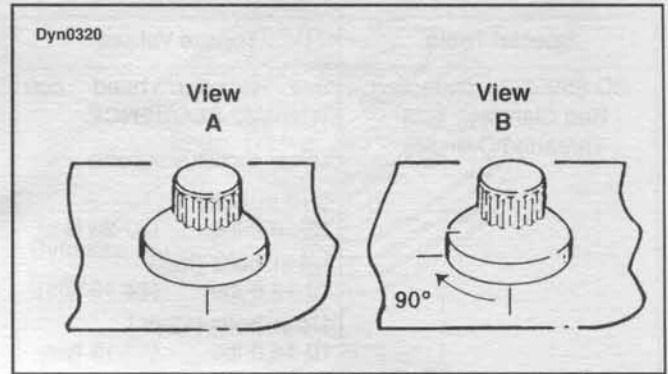

Figure 3-17. Tighten Cylinder Head Bolts
3. See Figure 3-17. Mark a line on the cylinder head and a corresponding line on the head of the cylinder head bolt as shown in View A. Following the same sequence 1, 2,